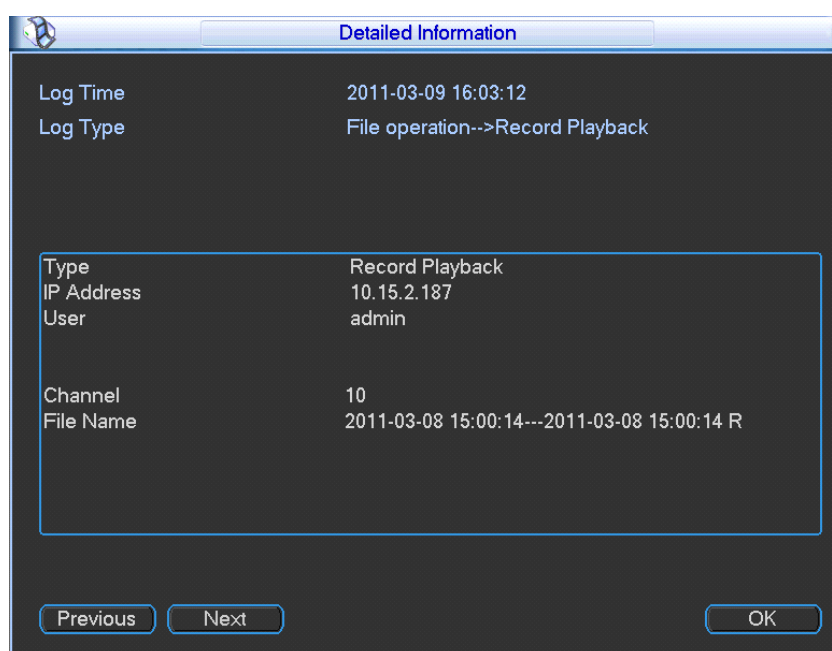

Figure 3-26
- Details: Click the Details button or double click the log item, you can view the detailed information. See Figure 3-26. Here you can use rolling bar to view information, or you can use Page up/Page down to view other log information.